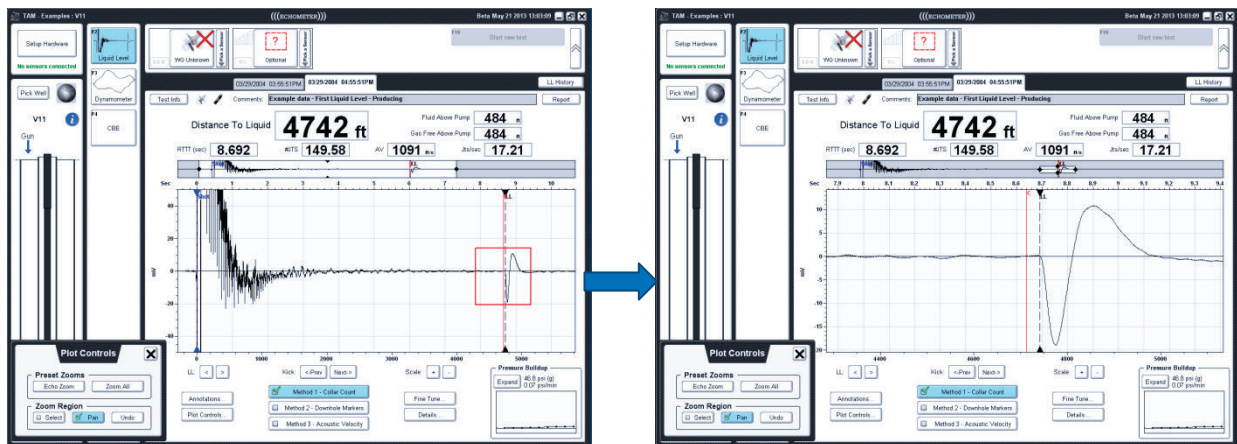

Figure 14: Selecting a new region of interest
- Using the **Select** tool allows the user to draw a box around a region of interest directly on the main trace plot. After clicking the “Select” button, the user’s mouse cursor will turn into a plus (+) sign when hovering over the main plot. Clicking and dragging on the plot will allow the user to draw a red box (see Figure 14 left) over the trace section of interest to display the record with an expanded timescale as shown at right in Figure 14.